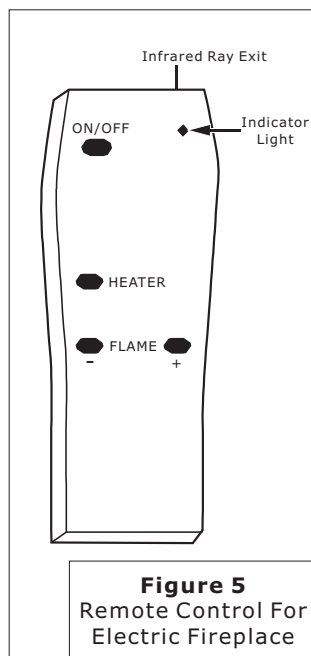

Figure 5
- 4/ The ON/OFF button at the top left of the remote is the main ON/OFF power button (Figure 5). Pressing this button activates the power to the unit.